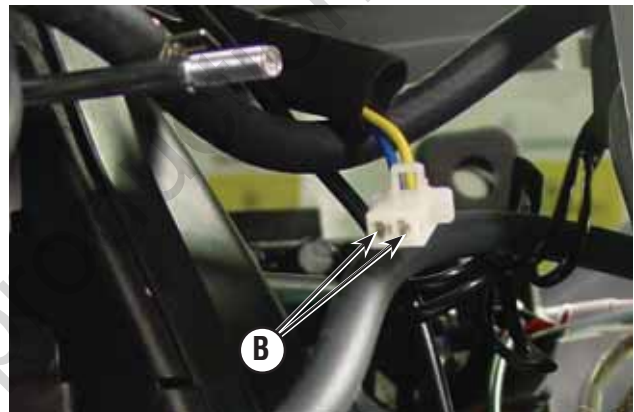

Figure 57
2. Attach meter test leads to primary side of the ignition coil and measure the resistance (**B**, Figure 57).